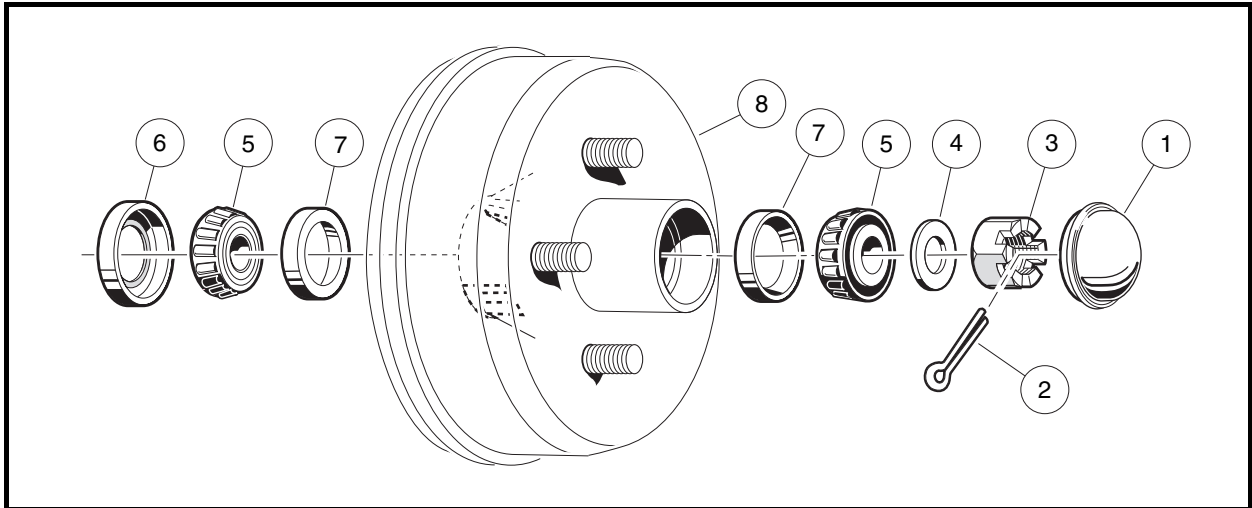

Figure 6-2 Front Spindle and Brake Drum Assembly
- 4.1. Remove the dust cover (1) and cotter pin (2) (**Figure 6-2, Page 6-7**).
- 4.2. Use a torque wrench and a Torx #T-27 driver, or hydraulic brake adjuster (CCI P/N 102169401), and gently rotate the adjuster bolts (**Figure 6-2, Page 6-7**). See following **NOTE**.